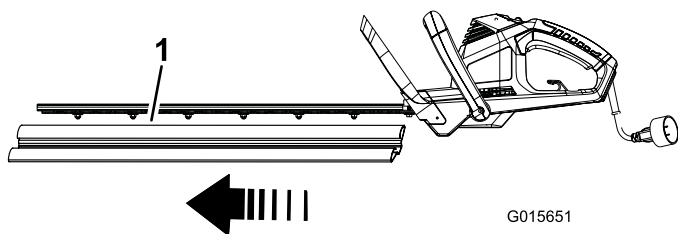

Figure 2
2. Align the tongue of the battery pack with the cavity in the handle housing (Figure 2).
3. Grasp the trigger handle (Figure 2)..
5. Place one hand on the trigger handle. Place the other hand on the auxiliary handle (Figure 2).
6. Slide the lock switch backwards, towards you, then squeeze the trigger switch to turn on the hedge trimmer (Figure 2). The trimmer will stay on as long as the trigger switch is squeezed. Lock-off switch may be released once hedge trimmer is running (Figure 2).
1. Release the trigger switch (Figure 2).